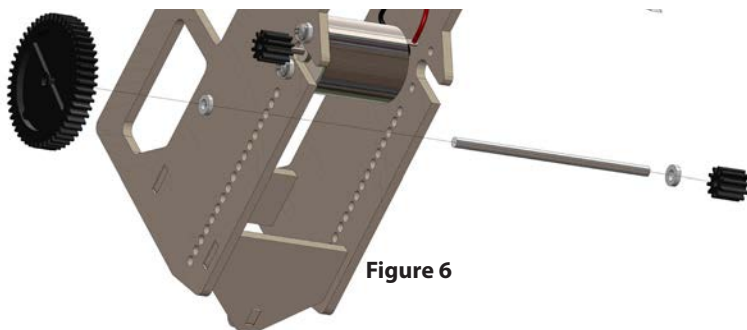

Figure 6
- Insert a 2-3/4" axle through the third hole from the motor. Put a spacer on each end of the axle. On the end of the axle by the motor post, attach a 50T gear with a 1/8" axle hole and attach a 10T gear with a 1/8" axle hole on the other end (Figure 6).